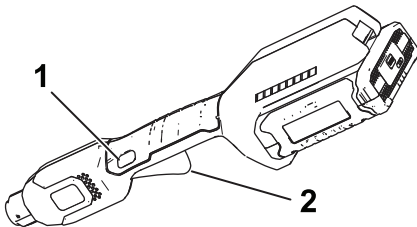

**Figure 7**
2. Align the cavity in the battery pack with the tongue on the handle housing (Figure 7).
3. Push the battery pack into the handle until the battery locks into the latch (Figure 7).